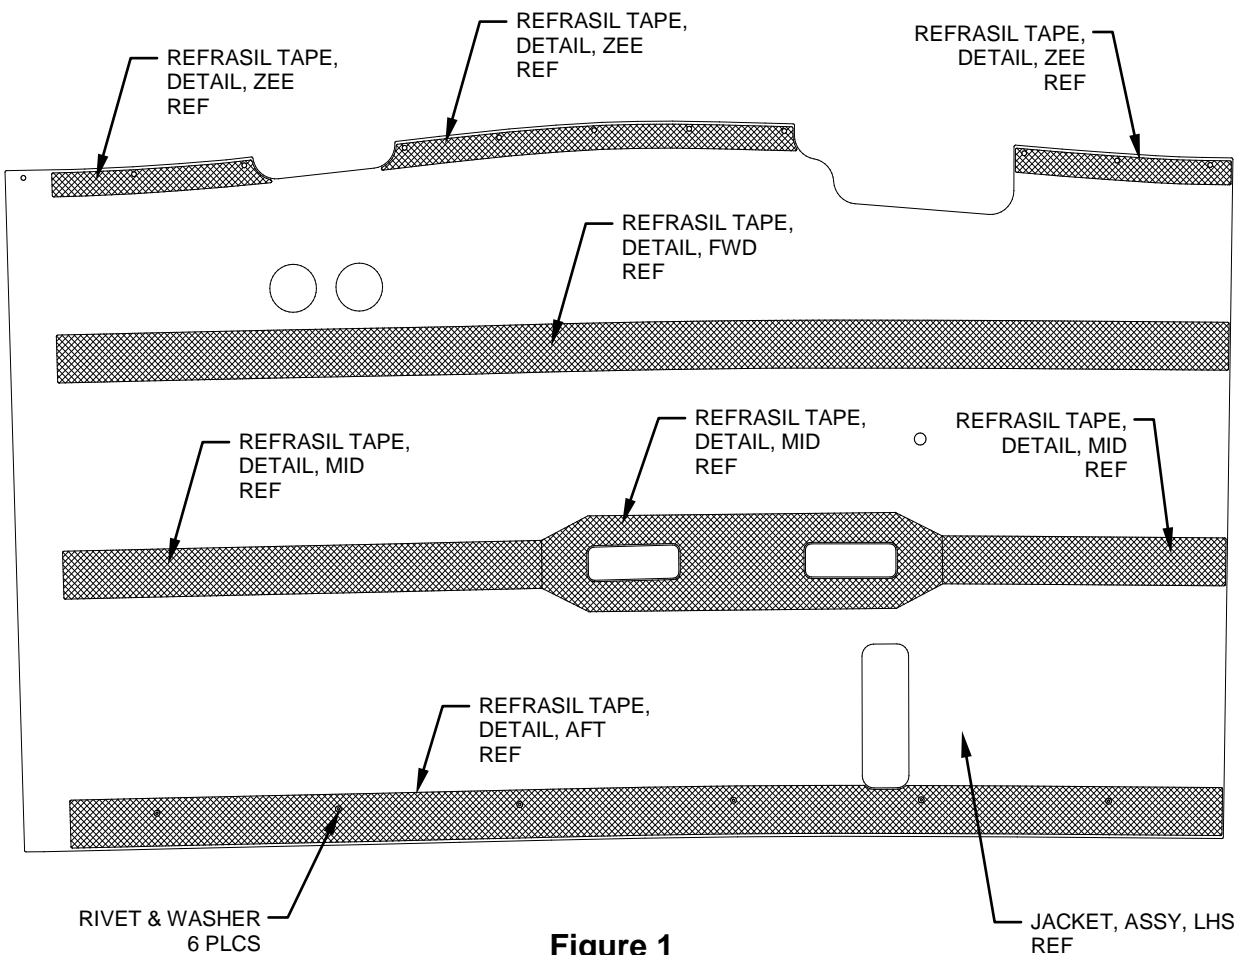

Figure 1
1. Place masking tape on the inner surface of the Jacket, Assy, LHS to mark the locations of the existing Refrasil Tape, Details as required. Remove the rivets and washers retaining the existing Refrasil Tape, Detail, AFT as shown. Remove and disregard all existing Refrasil Tape, Details. Reference Figure 1.